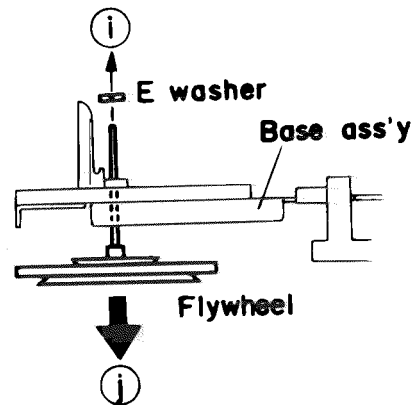

Fig.2-16
■ Flywheel assembly (Fig.2-16)